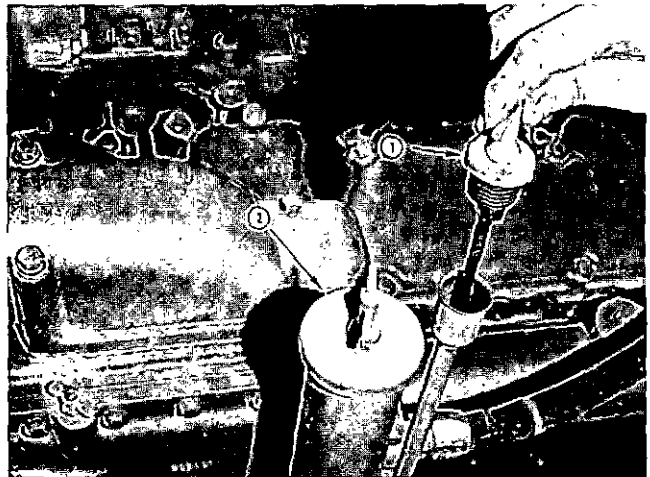

Fig. 5-1. Lubricating oil filler tube
Check for evidence of external oil leakage. Tighten cap-screws, fittings, connections or replace gaskets as necessary to correct. Check oil dipstick (1, Fig. 5-1) and filler tube caps (2). See that they are tightened securely.